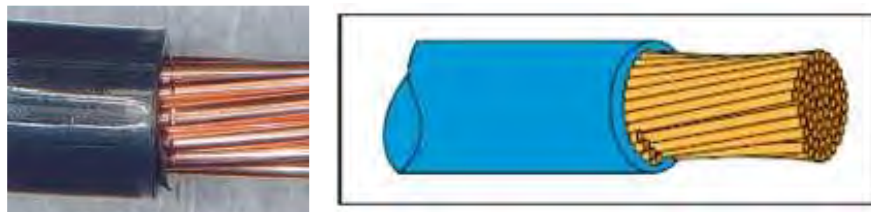

Figure 193
- g. Broken, nicked, or cut strands as listed below and shown in Figure 193.